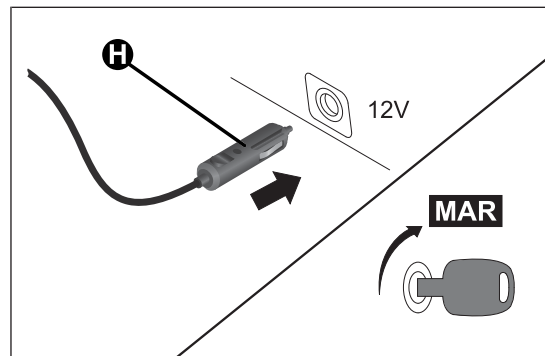

fig. 107
- ☐ place the electric plug H fig. 107 in the cigar lighter socket of the car (12 V);